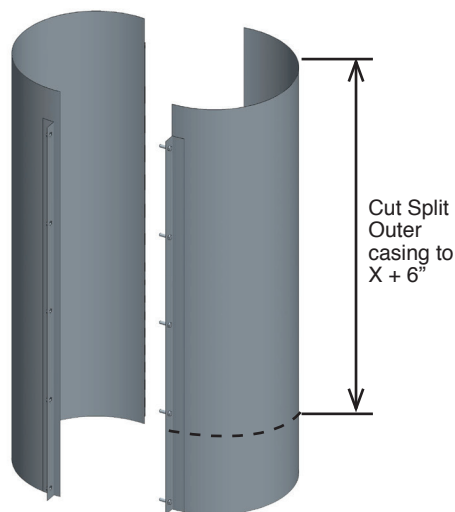

Figure 24b - Step 3 - Cut of the Outer Casing
3. Cut the split outer casing at dimension X + 6". See Figure 24b.